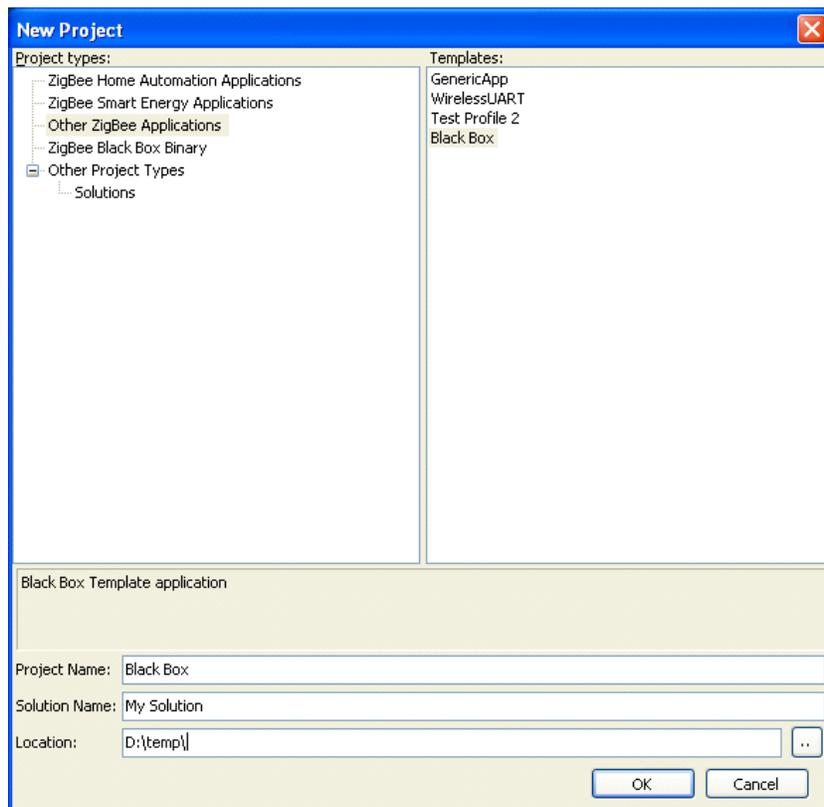

Figure 7-1. New Project Window
The New Project window appears as shown in Figure 7-1.
5. As shown in Figure 7-1, select the “BlackBox” template and fill in the Project name, Solution name and location fields.